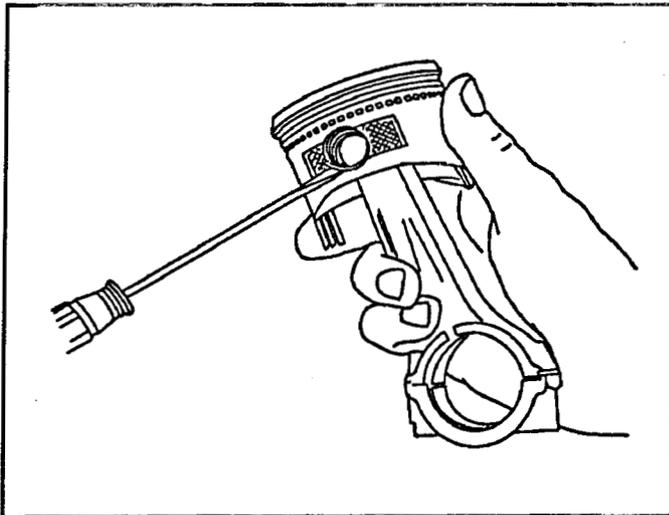

Figure 73
2. If the piston is to be removed from the connecting rod and reinstalled in the engine at a later time, note the piston orientation in order to maintain the established wear patterns. See Figure 73.